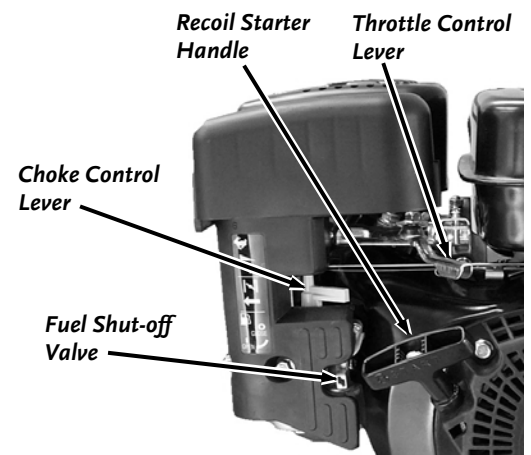

Figure 11
2. Make sure the fuel shut-off valve is in the “ON” position (**Figure 11**).
5. **Manual Start:** Turn the Ignition Switch to the “On” position (**Figure 12**). Grasp the recoil starter handle and slowly pull until you feel resistance (**Figure 11**). Let the cord retract a little bit then pull the cord rapidly to start the engine. One or two pulls usually starts the engine.
7. Move the choke control lever (if used for cold engine) slowly back to the “RUN” position when the engine is running well (**Figure 11**).